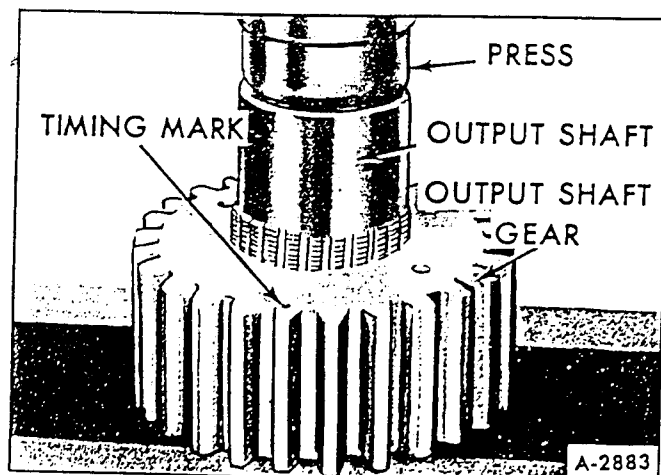

Figure 13 – Removing Output Shaft from Gear (Typical)
7. To remove pinion gear from output shaft, remove roll pin and gear retaining pin, then carefully press output shaft (pinion) gear from shaft (fig. 13).